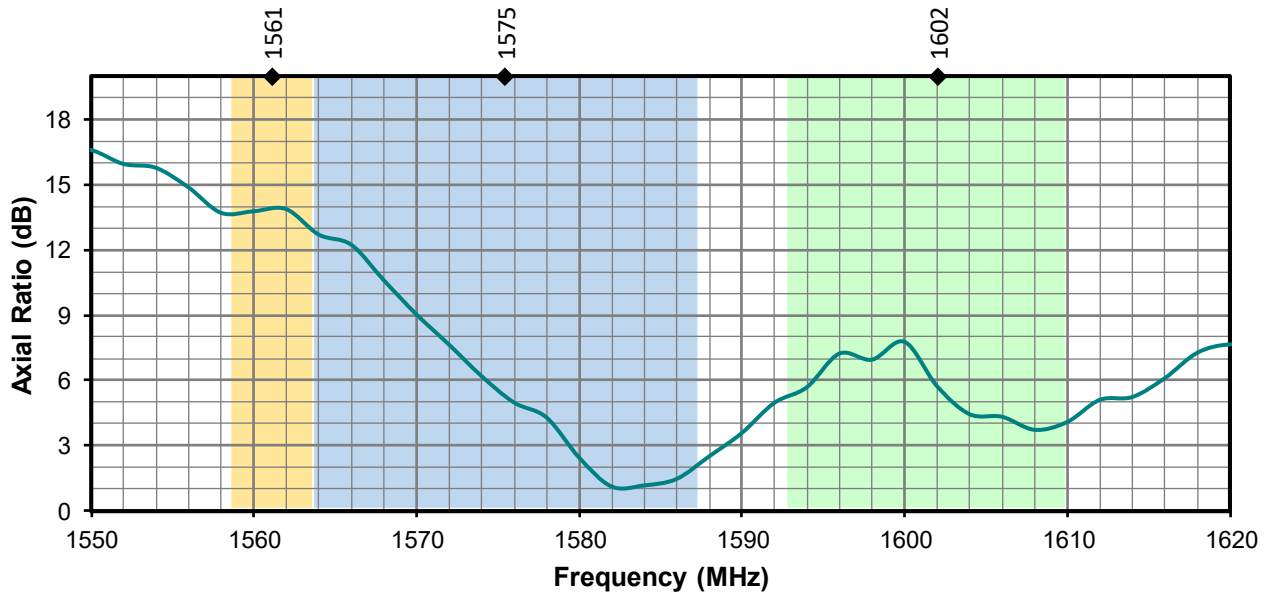

Figure 7. Antenna Axial Ratio, with ground plane
Axial Ratio (**Figure 7**) is the ratio of orthogonal components of an E-field. A circularly polarized field is made up of two orthogonal E-field components of equal amplitude (and 90 degrees out of phase). Axial ratio provides a measure of the quality of antenna circular polarization, the lower the value (in dB), the better the circular polarization. The ideal value of the axial ratio for circularly polarized fields is **0 dB (1)**. In practice, no antenna is perfectly circular in polarization, less than **3 dB** might be an adequate value.